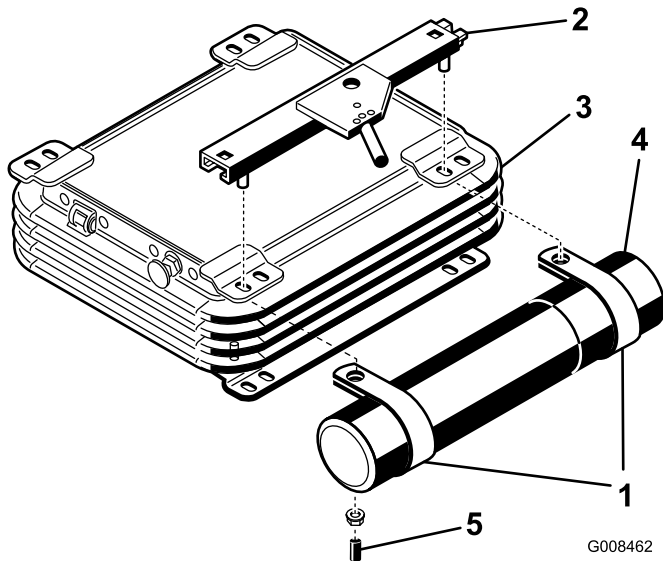

Figure 7
1. Remove manual tube and R-clamps secured to the seat plate. Discard the (2) mounting bolts and flatwashers.
2. Remove the 2 nuts and vinyl caps (if previously installed) securing the upper seat bracket to the left side of the seat suspension (Figure 7).